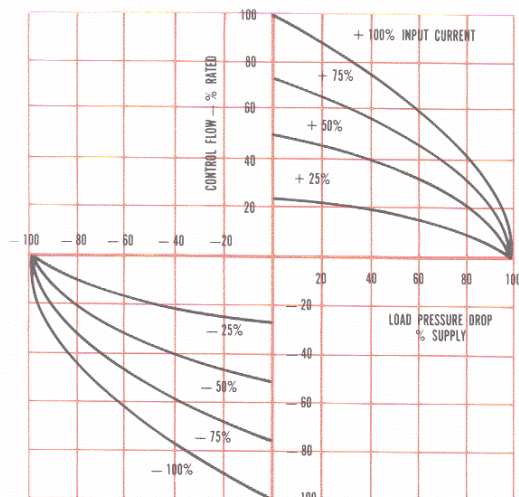

FIGURE 2 CHANGE IN CONTROL FLOW WITH CURRENT AND LOAD PRESSURE
**FLOW-LOAD CHARACTERISTICS** Control flow to the load will change with load pressure drop and electrical input as shown in Figure 2. These characteristics follow closely the theoretical square-root relationship for sharp-edged orifices, which is